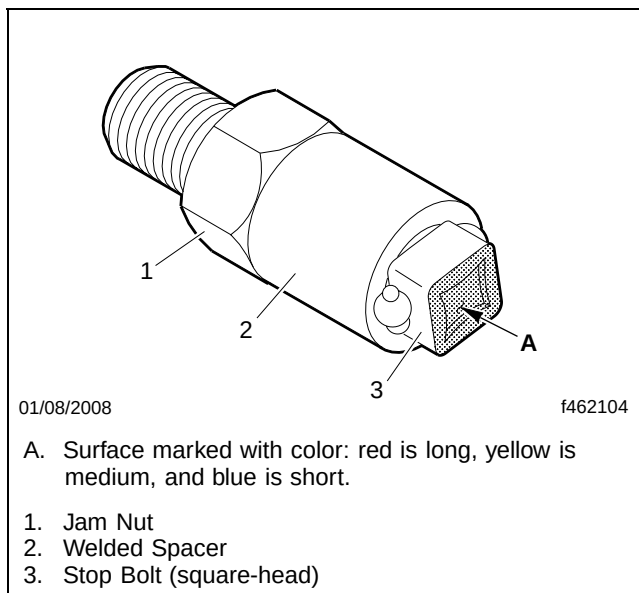

Fig. 7, New Axle Stop Bolt
35. If not already done, hand-tighten the jam nut against the welded spacer before installing each stop bolt. See **Fig. 7**.